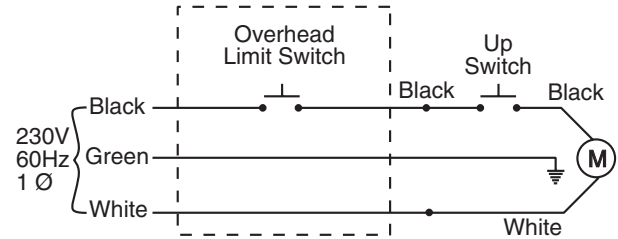

Fig. 15
12. Electrical: Have a certified electrician run appropriate power supply to motor, Figs. 15 thru 17. Size wire for 20 amp circuit. See Motor Operating Data Table.
IMPORTANT: Use separate circuit for each power unit. Protect each circuit with time delay fuse or circuit breaker. For single phase 208-230V, use 20 amp fuse. Three phase 208-240V, use 20 amp fuse. For three phase 400V and above, use 10 amp fuse. For wiring see Figs. 15 thru 17. All wiring must comply with NEC and all local electrical codes.
13. Overhead switch: Check overhead switch assembly to assure that switch bar is depressing switch plunger sufficiently to actuate the switch. The overhead switch is wired normally open, see Figs. 15 thru 17. Lift will not operate until weight of switch bar is depressing switch plunger. Verify that Power Unit stops working when switch bar is raised, and re-starts when the bar is released.